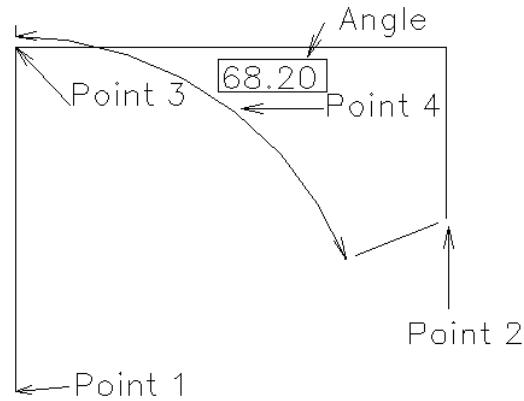

Figure 2
3. Use the **DIMENSION ANGLE** command to determine the cabinet front angle, figure 2, and record it on paper. Points indicated are for this dimension.
7. **ROTATE** the cabinet front into position using the cabinet front angle determined in step 2, figure 2. Because Designer Plus blocks items as they are drawn, this cabinet front and styled doors are a single block. Use the **BLOCK ROTATE** command under the Block menu or **BRO** (the **axis X** for horizontal or **Y** for vertical rotation axis,) (**the amount of rotation, the value obtained from step 3 above**) at the command line. For this cabinet at the command line you would enter **BRO Y -21.8**. The 21.8 degrees was determined by subtracting 68.2 from 90, the negative is a direction value. If you use the wrong direction value + or - merely press F3 and reverse the sign and enter, the cabinet will be rotated back to where it started from. Reuse the F3 key and enter to move the cabinet the same amount again. (Note* to save time you can add styled doors to this front before it is rotated. After the cabinet front is drawn, run DOORS and set 'block' to 'add' this will add the styled door to the existing front block.)